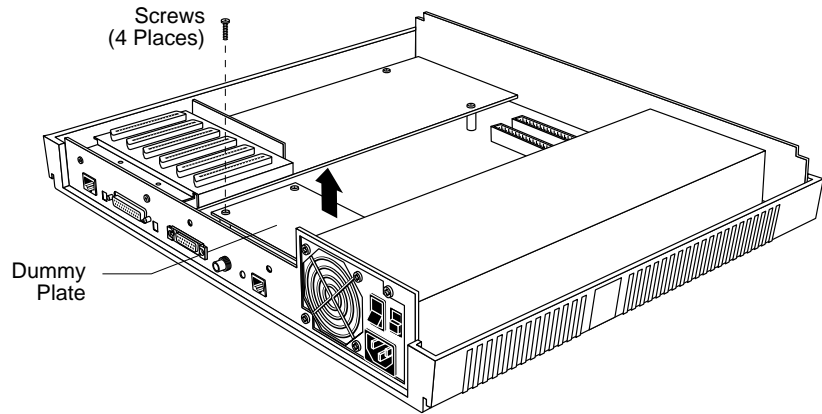

Figure C-4. Removing the Dummy Plate
- 6 Remove the four pan-head Phillips screws and the dummy plate (see Figure C-4).